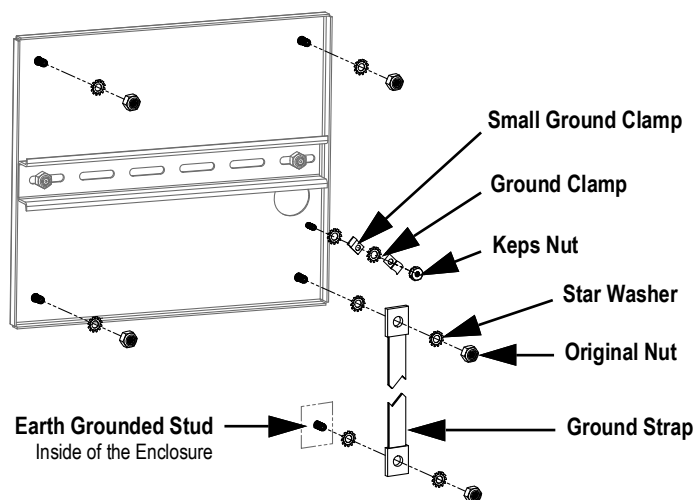

Figure 2-29. Backplate Shield Grounding
3. Secure the other end of the ground strap to an earth grounded stud inside of the enclosure with star washers on either side of the ground strap, see Figure 2-29. Make sure there is an appropriate amount of slack in the grounding strap for opening and closing the enclosure door.
**NOTE:** Ensure the small ground clamp is installed first then install the ground clamp, see Figure 2-29 on page 38.